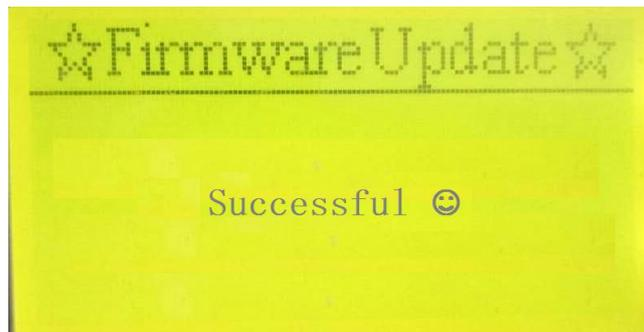

Figure 2.5
5. After upgrade successfully, will see interface as Figure 2.5